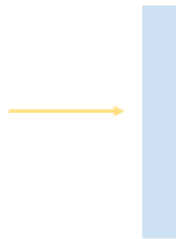

Figure 5: A single film.
- Develop a transfer matrix method code to find the reflectivity and transmittivity of single film shown in Figure 5. Plot the reflectivity and transmittivity as a function of the film thickness at the normal incidence of 500nm wavelength photon. Refractive index of the film is 2.5 and assume vacuum on both sides.